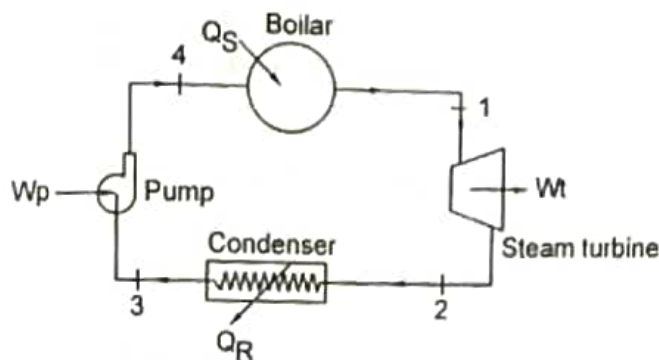

Fig. 5.4 Components of Rankine cycle
Rankine cycle consists of four processes. These processes take place in four components as shown in Fig. 5.4. (1) Boiler (2) Turbine (3) Condenser (4) Feed pump.